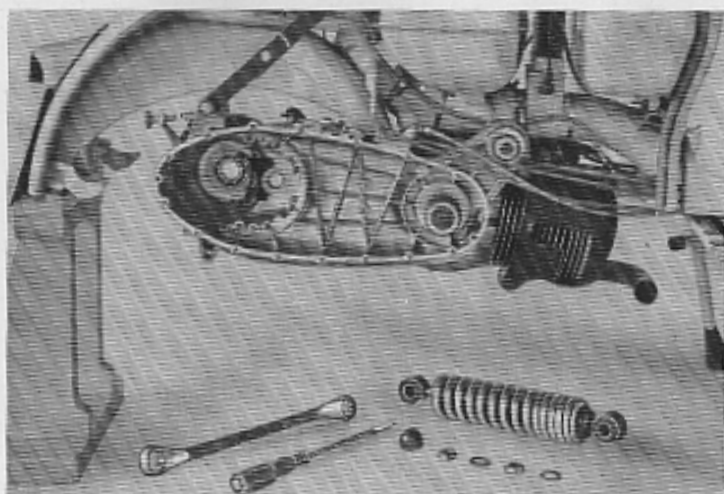

Fig. 14
- 20 Remove crankcase engine return buffer and support crankcase by means of a tie between the two suspension unit fixing pins so that the cylinder head is as low as possible. (See Fig. 14).